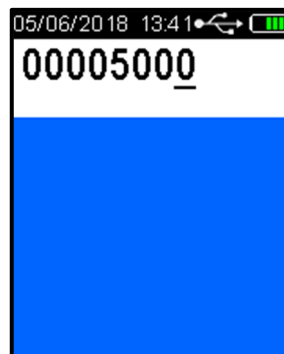

Figure 30 - Password Set Up Code 00005000
- Press the Up button until that number is '5' (Refer to Figure 30).